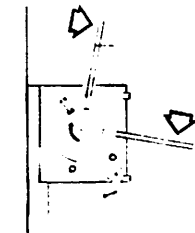

FIGURE 7
- C. While holding first BAR, insert second Winding Bar in top of Tension Wheel as shown in Figure 7.